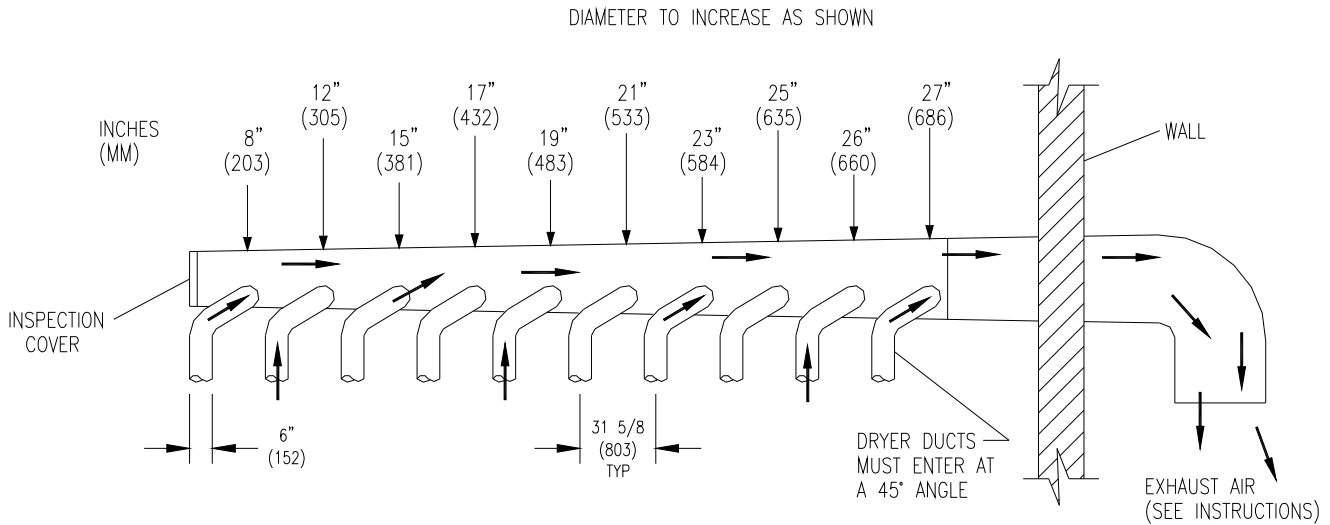

FIGURE 3- Dryer Exhausting Using A Main Discharge Duct.
6. EXHAUST INSTALLATION. EXHAUST INSTALLATION. (Refer to Figure 3) Exhausting of the dryer(s) should be planned and constructed so that no air restrictions occur. Any restriction due to pipe size or type of installation can cause slow drying time, excessive heat, and lint in the room.
Installation of several dryers, where a main discharge duct is necessary, will need the following considerations for installation (see Figure 3). Individual 6" (152 mm) exhaust ducts from each dryer should enter main discharge duct at a 45-degree angle in the direction of discharge airflow.
NOTE: Never install the individual ducts at a right angle into the main discharge duct. The individual ducts from the dryers can enter at the sides or bottom of the main discharge duct. Figure 3 indicates the various round main duct diameters to use with the individual dryer ducts. The main duct can be rectangular or round, provided adequate airflow is maintained. The total exhausting (main discharge duct plus duct outlet from the dryer) should not exceed the equivalent of 14 ft. (4.25 m) and two elbows. The diameter of the main discharge duct at the last dryer must be maintained to exhaust end.